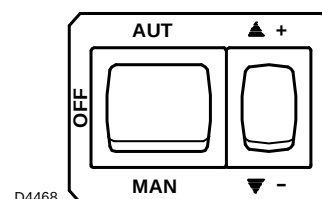

Fig. 20
- 2 Select the "MAN" operating mode (Fig. 20) and carry out the calibration of CAM III of the servomotor and the calibration screw of the POINT 0 as indicated in Tab. M, then start the burner.
- 3 After igniting, manually bring the servomotor to the second flame position by pressing the "+" switch (Fig. 20).
- 4 Manually bring the servomotor to the first flame position by pressing the "-" switch (Fig. 20).
When finished, after checking that the burner has a good ignition and good flame stability, select automatic operating by putting the selector switch to "AUT" (Fig. 20): the modulation will occur between the calibration position of CAM II and that of CAM I.
If the cam angle needs to be increased, it is first necessary to increase the angle of the servomotor with the key "increase output" +)(Fig. 20), then increase the angle of **CAM III** and finally bring
the servomotor to the MIN output position with the key "decrease output" -)(Fig. 20).